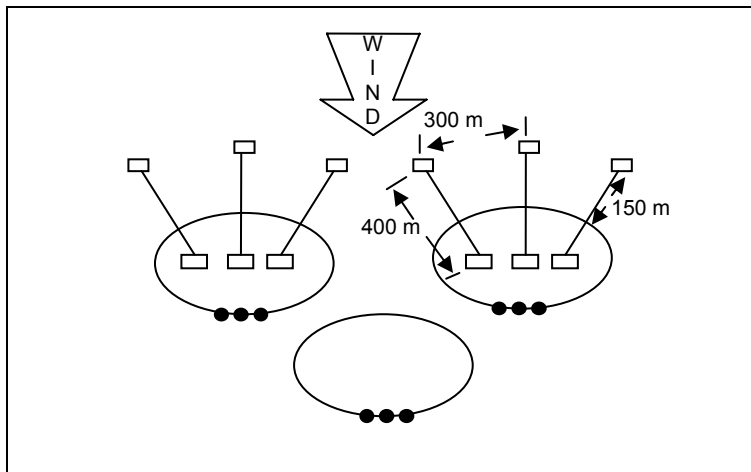
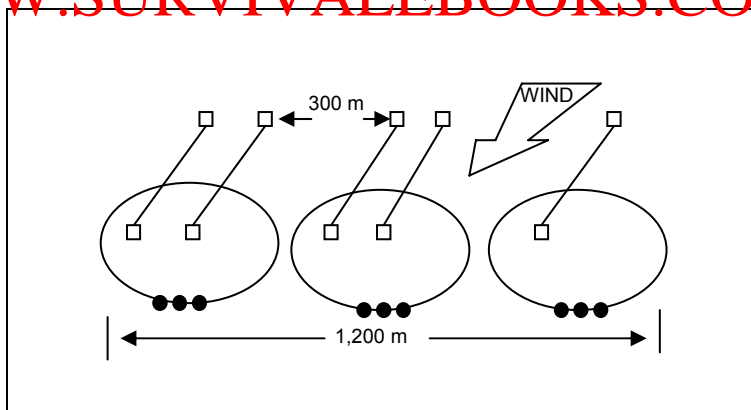

Figure 2. ACAA Setup, Example 1
Figure 3. ACA Setup, Example 2
3. Determine the detector array to be used by considering the above concerns, number of detectors available, and position of the unit (see Figure 2 and Figure 3).